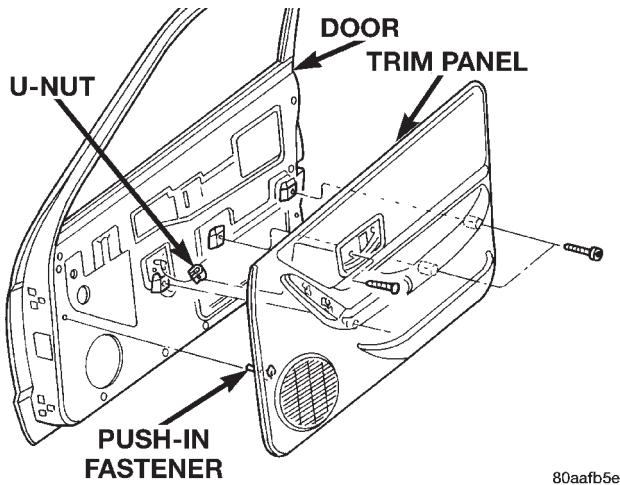

Fig. 3 Front Door Trim Panel Remove/Install
(1) Disconnect and isolate the battery negative cable.
(2) Remove the screws that secure the front door trim panel to the inner door panel (Fig. 3).